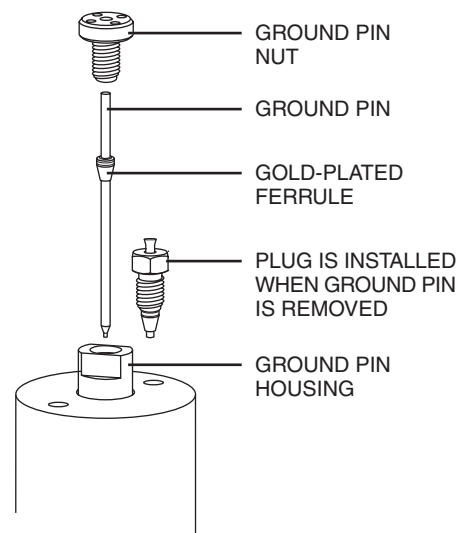

Figure 3: Remove the ground pin and install the plug
6. Remove the ground pin from the housing by lifting it straight up. (Figure 3)